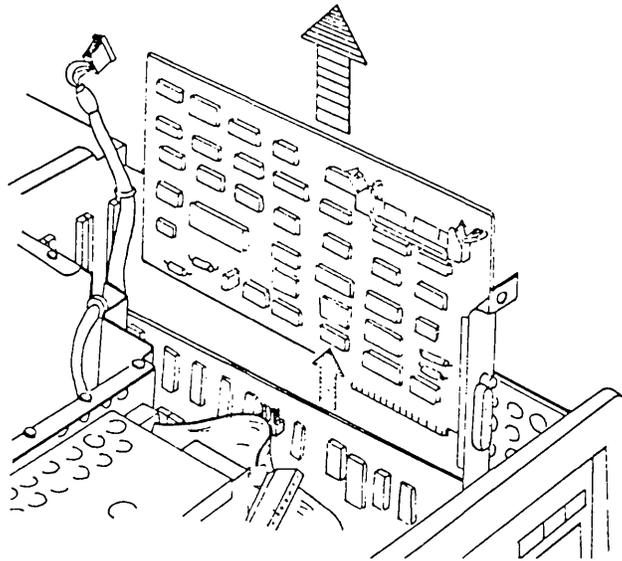

Figure 11-10. Removing the Diskette/Printer Adapter Board.
7. Gently remove the adapter boards by pulling them away from the processor board (see Figure 11-10).